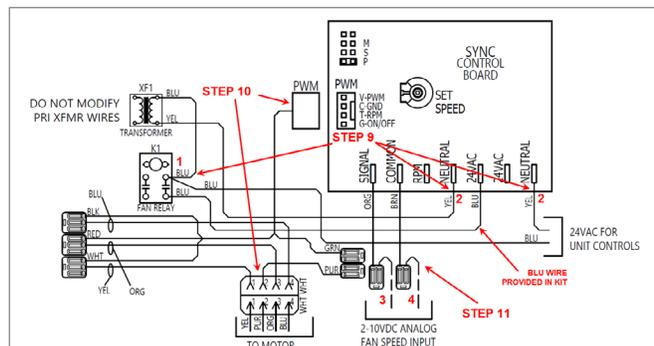

Figure 40 - Sync PWM Electrical Connections
CONNECT POWER AND FAN RELAY TO SYNC PWM (See Figure 40)
CONNECT MOTOR CONTROL SIGNAL TO SYNC PWM (See Figure 40)
CONNECT 2-10VDC SIGNAL WIRES TO SYNC PWM (See Figure 40)
- Ensure that the new wires have been connected as specified in Figure 40.